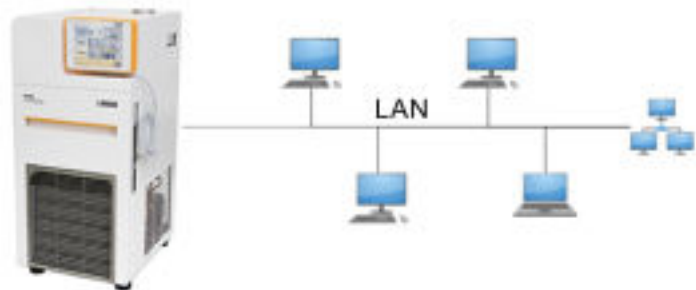

Fig. 15: Connected via LAN
Fig. 15 illustrates how the thermostatic circulator is connected to a control station/PC via a LAN network.
11. Connect the Ethernet interface on the constant temperature equipment as illustrated in Fig. 15 to Fig. 17. Use a commercially available Ethernet cable (patch cable).
7. Connect the Ethernet interface on the constant temperature equipment as illustrated in Fig. 15 to Fig. 17. Use a commercially available Ethernet cable (patch cable).